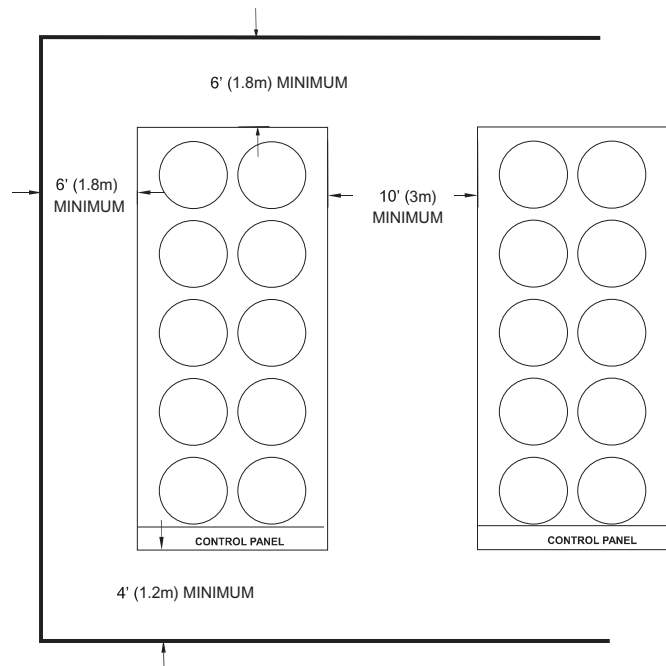

FIG 8. – ACCEPTABLE MINIMUM CLEARANCES AROUND/BETWEEN UNIT(S) FOR PROPER AIRFLOW
The YVAA chillers are designed for outdoor installation. To achieve optimum performance and trouble-free service provide adequate space around chillers (see Figure 8). When selecting chiller installation sites, follow these requirements:
2. Provide space for air to flow into condensers per dimensions shown on the dimension drawing on pgs 20 and 21. Restricted airflow or hot air recirculation will diminish performance. Johnson Controls' unit controls will optimize the operation without nuisance high pressure safety cutouts; however, the system designer **MUST** consider potential performance degradation. Recommended clearances (See Fig. 8) for all units are as follows: